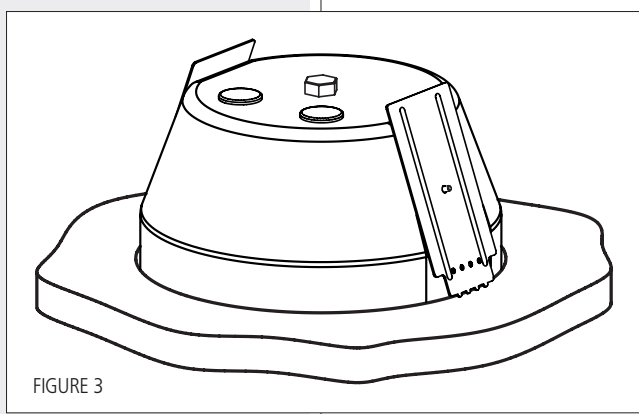

FIGURE 3
4. Loosen the two wing bolts **A** again and move the two attachment plates **B** downwards to secure the fire dome to the false ceiling (as shown in figure 3). When this operation is completed, re-tighten the two wing bolts **A**.